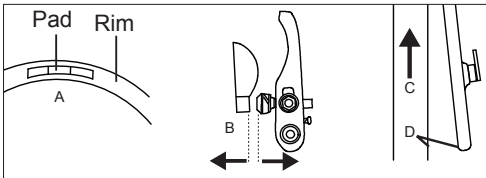

Fig. 6: Pad alignment. A: Brake pad lined up with rim surface. B: Brake pad and rim should be parallel. C: Rim direction. D: Toe-in of .5-1.0mm.
- **Hand-rim brake:** a cable connects a hand lever to the brake. The lever causes brake pads to apply pressure to the rim. Pull the lever to make sure the brake moves freely and stops the bicycle. If the lever can be pulled to the handlebar, the brake is too loose. When brakes are not applied, brake pads should be 1 to 2mm from rim. If brake pads are too near the rim, brake is too tight. The brake pads should be in line with the rim surface (Fig. 6, page 13)